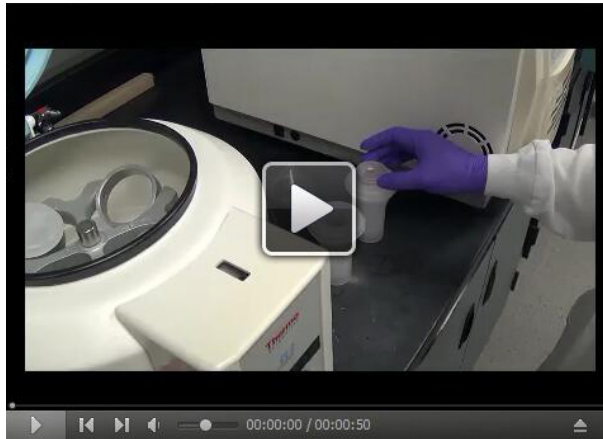

**Figure 5. Through hole PDMS adhere to a 35 mm dish**
- a. Adhere cell loading array (through hole PDMS for adherent cell or PDMS wells for non-adherent cells) at the center of 35 mm cell culture dish. Figure 5 is an example of through hole PDMS adhere to a 35 mm dish.